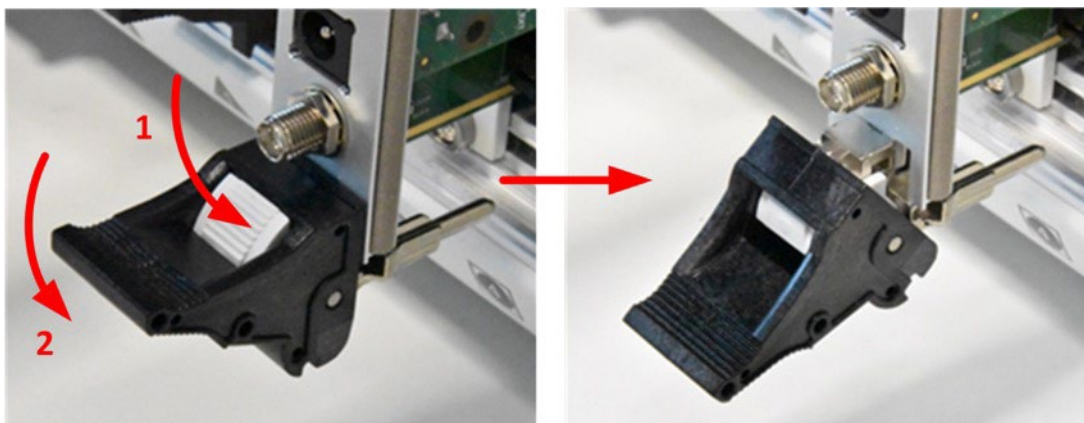

Figure 20: Push the ejector latch down prior to inserting the module
- Push the ejector handle down (Figure 20) by pressing the grey button (step 1) on the handle and subsequently pushing the black handle (step 2) down.